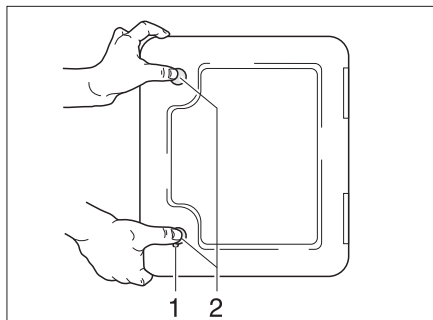

Fig. 163 Flap for the toilet cassette
- Open the flap for the cassette on the outside of the vehicle. Insert the key into the locking cylinder of the push-button lock (Bild 163,1) and turn a quarter turn.
- Press both push-button locks (Bild 163,2) simultaneously with your thumb and open the flap for the cassette.